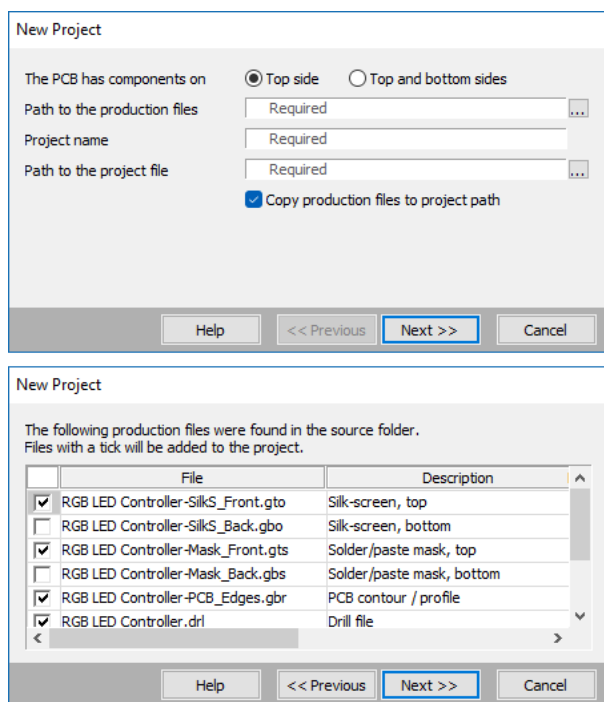
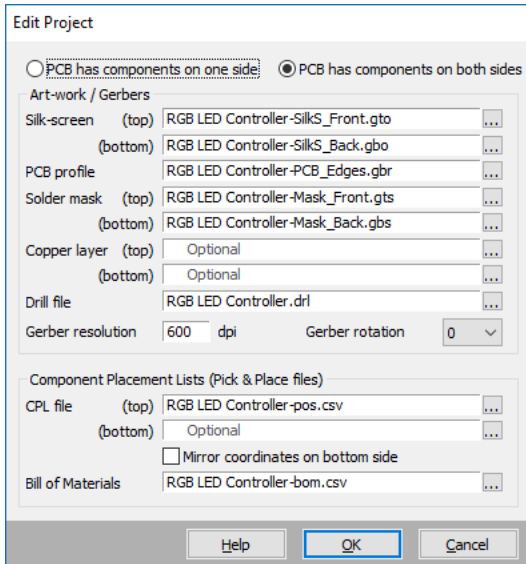

FIGURE 2: 'New Project' assistant
FIGURE 3: *Project settings*
The dialog uses three steps. The first two steps are shown in figure 2, the last in figure 3.
Step 3: All information is then listed in the Project settings dialog (figure 3). This dialog has dynamic fields. Depending on your choices, not all settings may be visible. On the top of the dialog, you can choose whether the PCB has components on a single side or on both sides. For PCBs with only components on one side, the dialog is simplified.